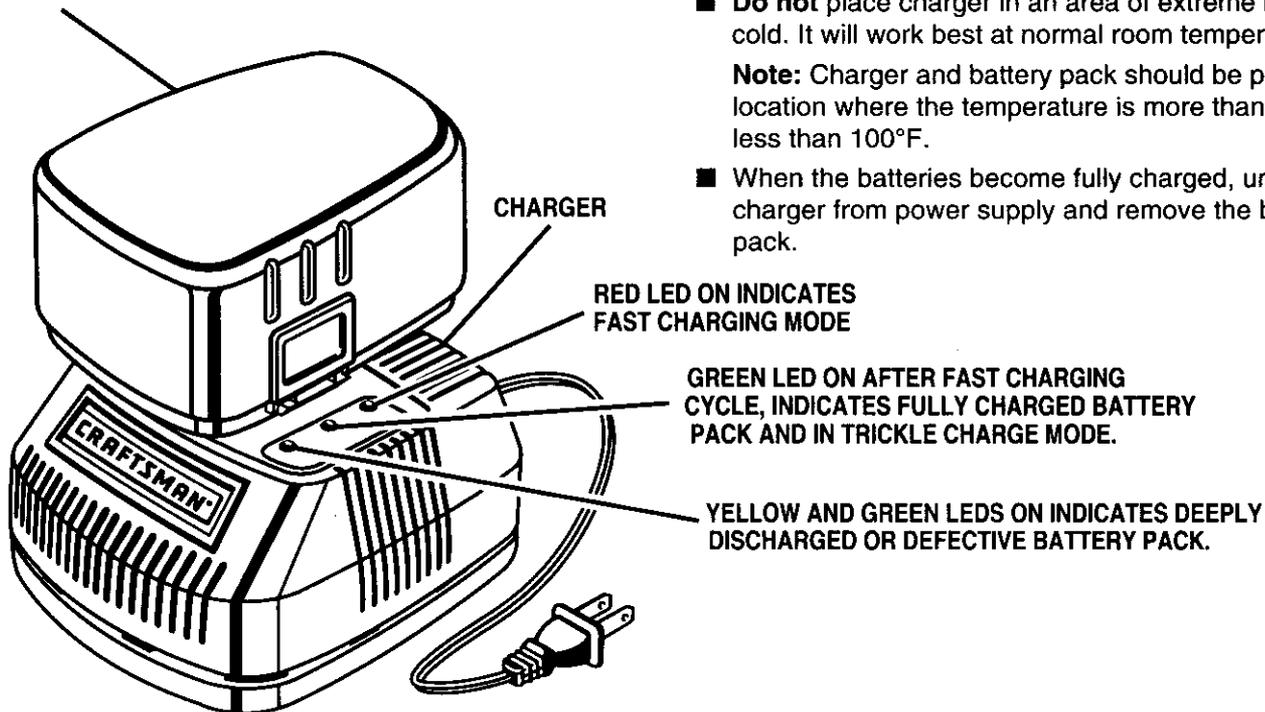

Fig. 8
- Place battery pack in charger aligning raised rib on battery pack with groove in charger. See Figure 8.